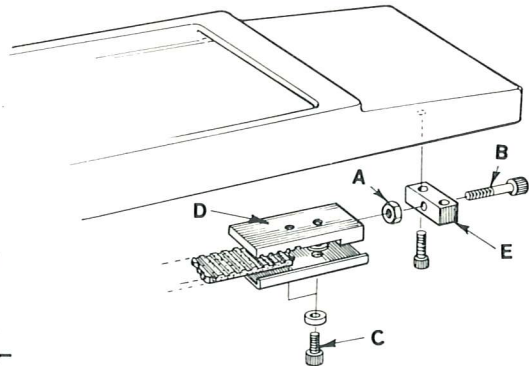

Fig. 6G. Construction at right end of table drive belt.
2. Back off the belt tension locknut (A, Fig. 6G) at the right end of the table.
3. Loosen the belt tension screw (B).
4. Loosen the belt plate clamp screws (C) and release the belt.
10. Clamp the belt to the belt tension block (D).
11. Adjust the belt tension to allow the screw (B) to move sideways in its support (E). Do not overtighten.